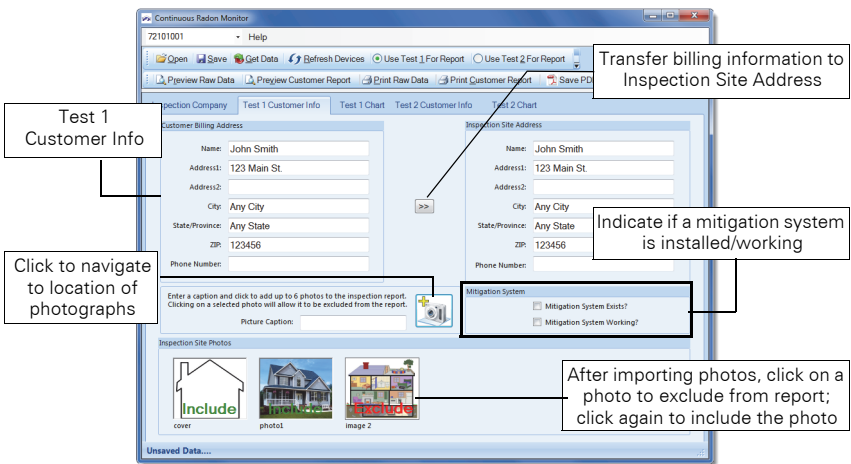

Figure 15. Entering Customer and Site Information
- 1** After downloading test data, click the **Test 1 Customer Info** tab. Two panels display (Figure 15):